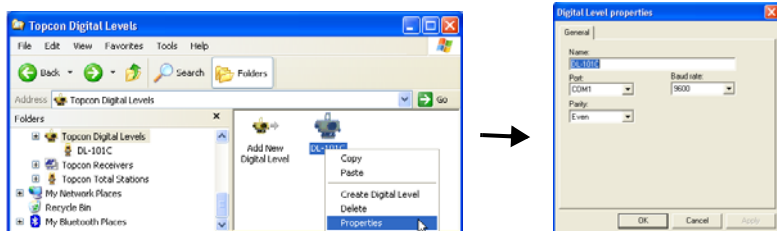

Figure 2-31. Changing Digital Level Properties
- A new icon for the Digital Level displays (Figure 2-31) in the right panel, and a new sub-folder will be created in the *Topcon Digital Levels* folder of Windows Explorer. To change the properties (communication parameters, name, model, and so on) for this Digital Level, right-click on the icon and select *Properties* on the pop-up menu. The **Digital Level Properties** dialog box for the Digital Level is identical to the **Create Digital Level** dialog box for the new Digital Level.